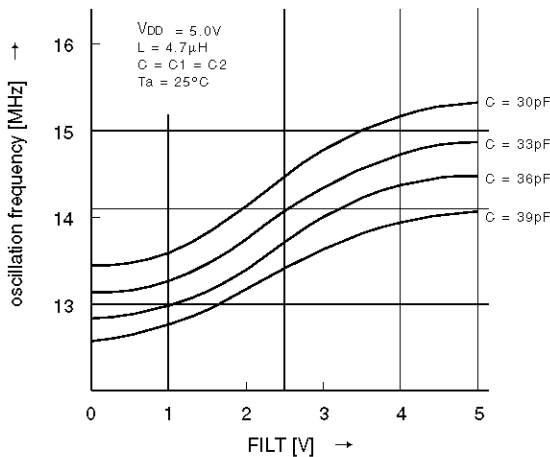

Figure 10 FILT-LC Oscillation Frequency (1)
* See Figures 10 and 11 for the oscillation frequency.
- Adjust the voltage of monitor point in Figure 10 to $1/2V_{DD} \pm 10\%$ by the LC oscillation constant 'L' or 'C' to lock the PLL circuit.